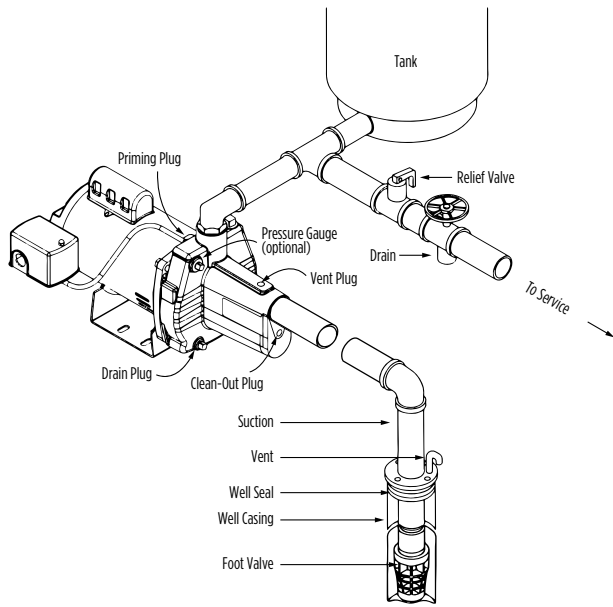
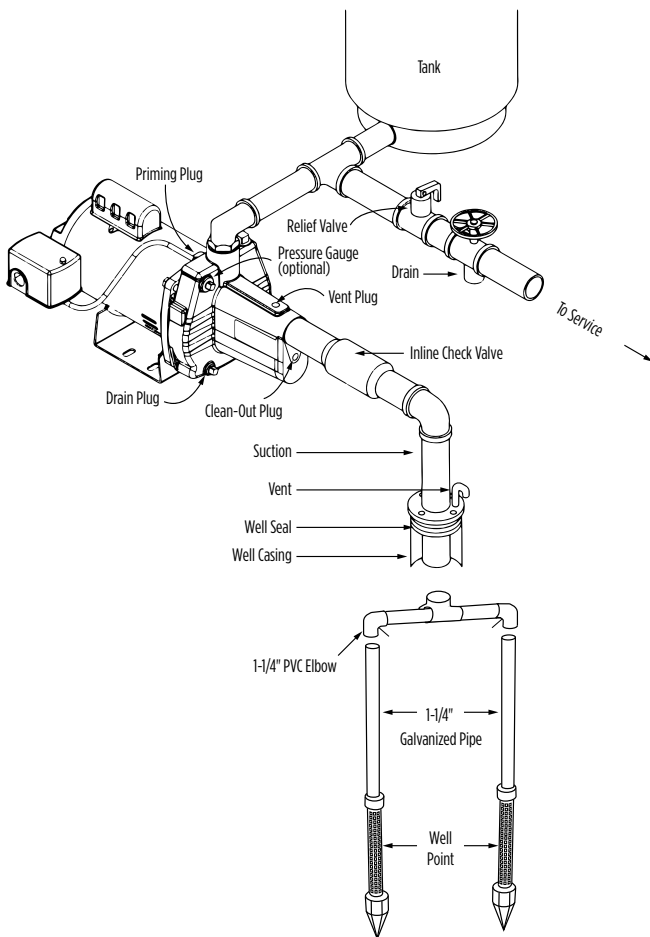

Figure 3 - Shallow Well (with foot valve)
Figure 5 - Shallow Well (with inline check valve)
It is recommended that only new, clean 1-1/4" pipe or hose be used. If the pump is installed any appreciable distance away from the source of water, the suction pipe should be increased to 1-1/2". Horizontal lengths of pipe must gradually slope upward from the source of water to the pump to avoid air pockets in the line. Thread compound should be used on all pipe joints and connections should be thoroughly tightened. **A foot valve or check valve must be installed** and its operation should be checked, since a leak will prevent proper operation of the system. Make sure the foot valve is located so that it will be submerged at all times. If a sand point or driven well is used, install a check valve next to the pump suction instead of the foot valve (see **Typical Installations**, Figure 5). All installations must have a foot valve or a check valve in the suction pipe.
11. A pressure gauge is not supplied with the pump. It should be installed into the 1/8" NPT hole on the front of the casing on the opposite side of the pressure switch (see **Typical Installations**, Figures 3, 4, 5, or 6).
Shallow well installations use only a single pipe connecting the pump to the water supply. This pump can be used for drilled wells (see Figures 3, 4 or 6) or driven wells (see Figure 5). Drilled wells are holes drilled into the ground by professional well drillers using a large rig. Driven wells use a well point (also known as a sand point), which is a long pointed tube with a screen that allows water to enter the pipe but keeps out sand and sediment. The water level in a driven well is fairly high or near ground level (maximum 30 ft [9.1 m]). Continue with the appropriate shallow well installation.
7. A pressure gauge is not supplied with the pump. It should be installed into the 1/8" NPT hole on the front of the casing on the opposite side of the pressure switch (see **Typical Installations**, Figures 3, 4 or 6).
1. Drive the well point into the ground according to the instructions included with the well point. It must be deep enough to bore through the water-bearing formation below the water table, but it should not exceed 25 ft (7.6 m) in depth. An individual well point may not supply the amount of water needed. Sometimes it is necessary to use more than one well point to increase the water supply. The two separate well points can be jointed together using additional piping and a cross joint (see **Typical Installations**, Figure 5).
8. A pressure gauge is not supplied with the pump. It should be installed into the 1/8" NPT hole on the front of the casing on the opposite side of the pressure switch (see **Typical Installations**, Figure 5).